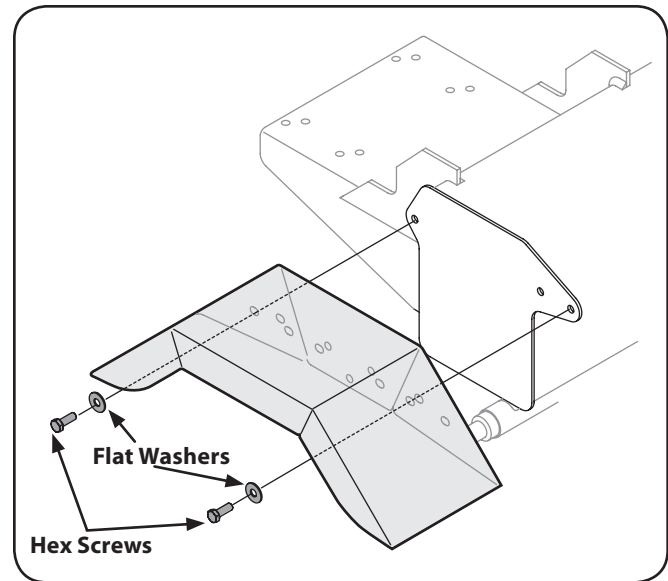

Figure 3-1
1. Remove the self tapping screws and flat washers from the side of the tank. See Fig. 3-1.